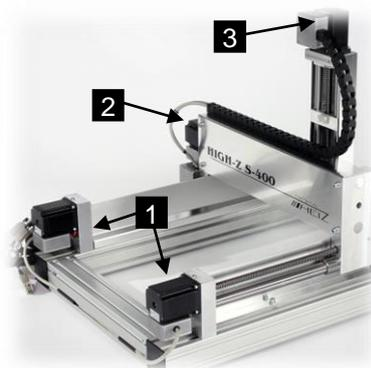

Figure 24: Stepper motors of axes
- X-axis stepper motor (Fig. 24/1) to terminals X1 and X2 of the stepper motor controller
- Y-axis stepper motor (Fig. 24/2) to terminal Y, the stepping motor control
- Stepper motor Z-axis (Fig. 24/3) to terminal Z of the stepper motor control